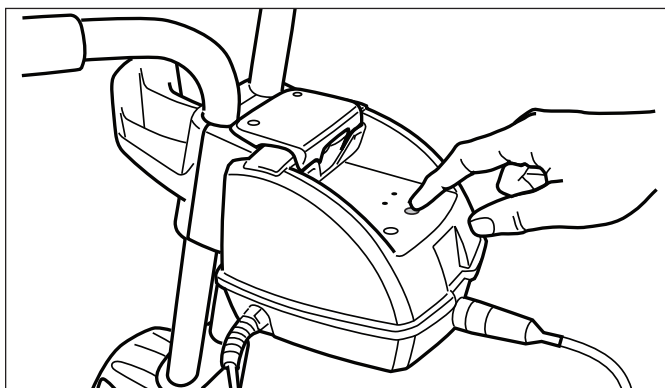

Figure 19. Start the Cleaner
1. To start your cleaner, press the button for "Cycle I" cleaning program. "Cycle I" cleaning is the primary cleaning cycle for inground pools. If an alternative cycle is preferred, press "Cycle II". Refer to Figure 19. The indicator light illuminates and the cleaner starts up after just a few seconds. When the cleaner is powered ON it will remain in standby until the Cycle I button is pressed.